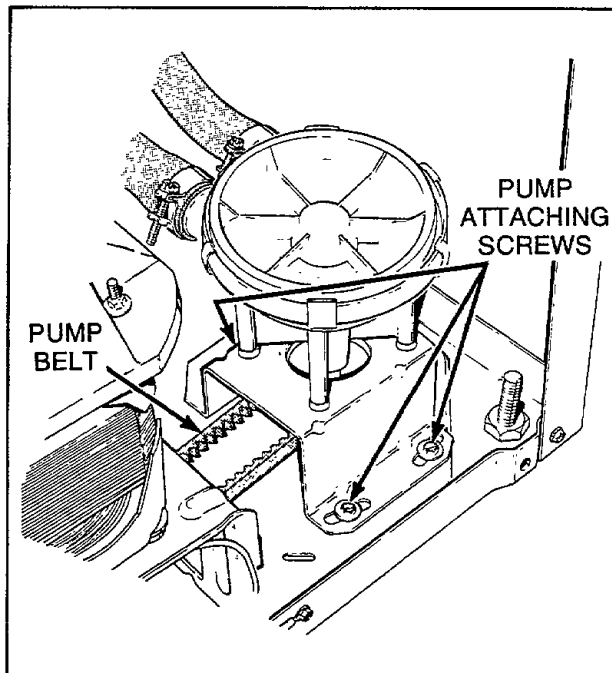

Figure 32
- Loosen the two front mounting screws, *Figure 32*, then loosen the rear screw.